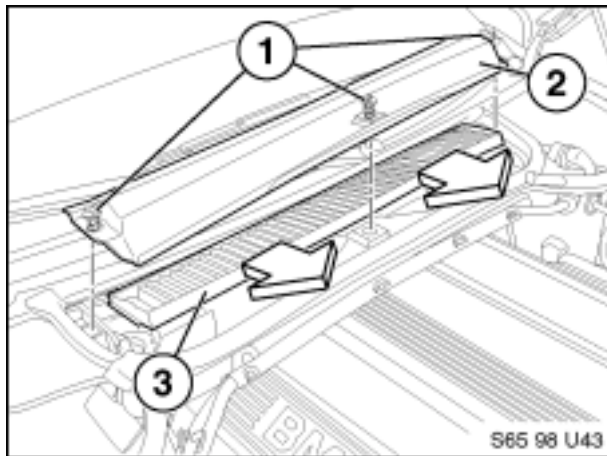

Figure 1
1.2 See Figure 1. Release (1/4 turn) the three spring loaded fasteners (1) on grill cover (2).
1.3 See Figure 1. Remove air collector (3).